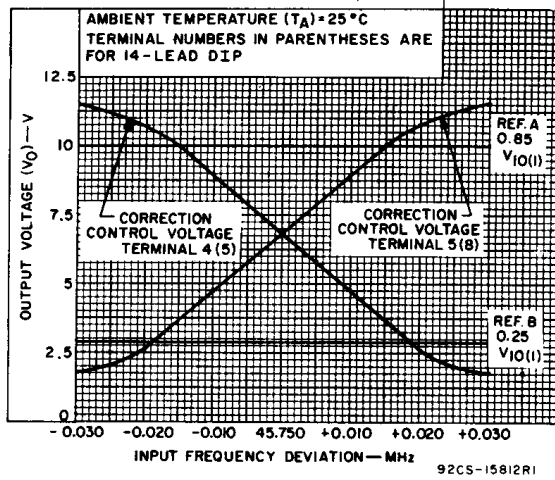
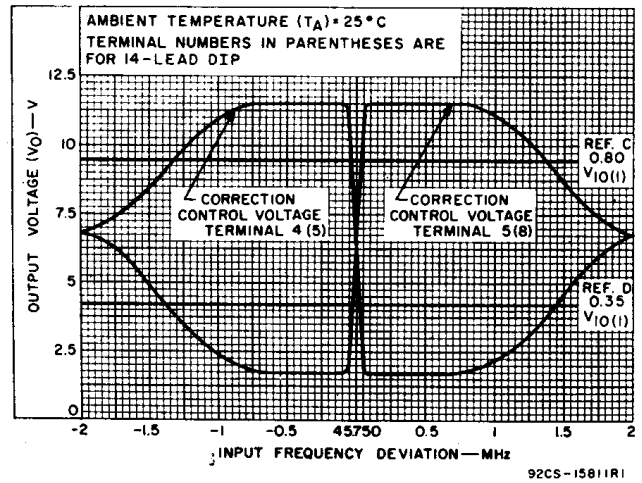

Fig.6 – Typical narrow-band dynamic control voltage characteristics.
Fig.7 – Typical wide-band dynamic control voltage characteristics.
Figures 5, 6, and 7 show the control voltages generated at terminals 4(5) and 5(8) of the Integrated Circuit as a function of the frequency deviation from the nominal center frequency. Figure 6 shows the region within 30 kHz of the center frequency while Figure 7 covers the entire bandwidth of the system. The horizontal reference lines on the figures are generated by a voltage divider connected between the power